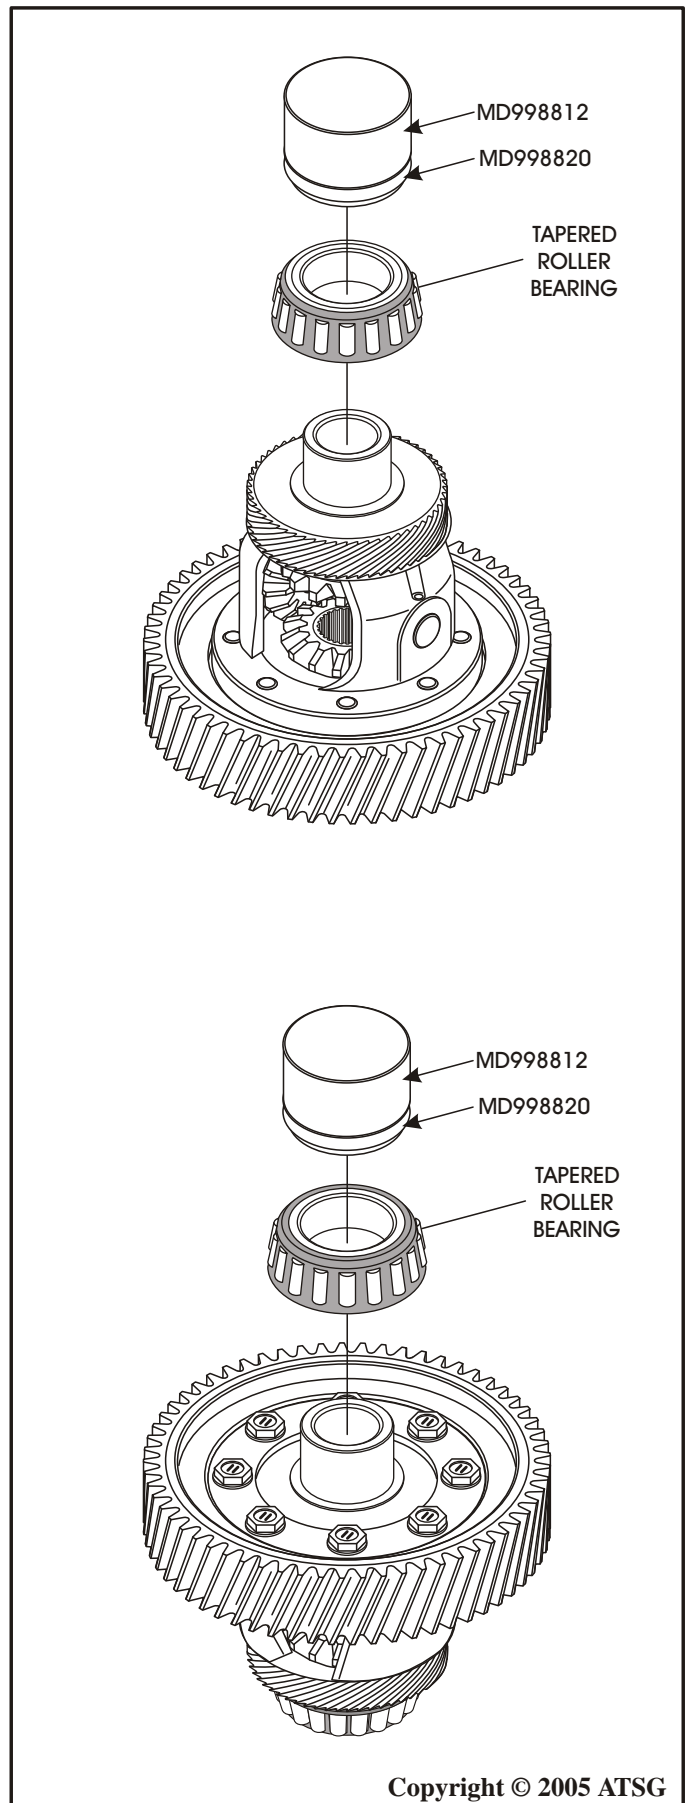

Figure 126
5. Install the tapered roller bearings using the special tools, shown in Figure 126 and using a suitable press.